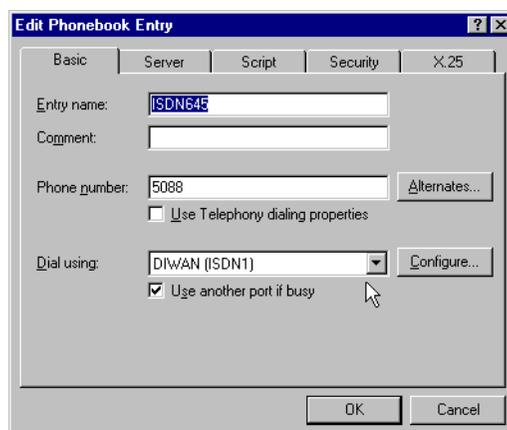
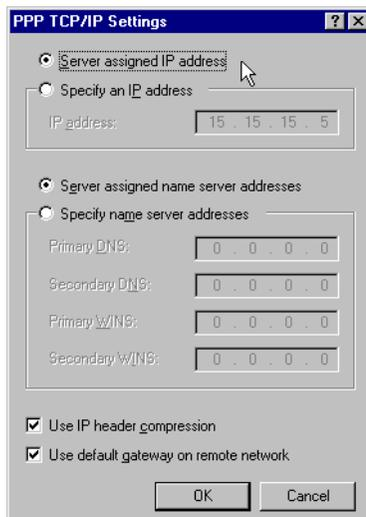

Figure 86. Basic page of Phonebook
Figure 88. TCP/IP Settings properties of Phonebook
Figure 86 through Figure 88 on page 104 show the values of Phonebook properties of Dial-Up Networking on a PC in this scenario.
1. Edit the Basic page of Phonebook (Figure 86).
3. Edit the PPP TCP/IP Settings properties of Phonebook (Figure 88).